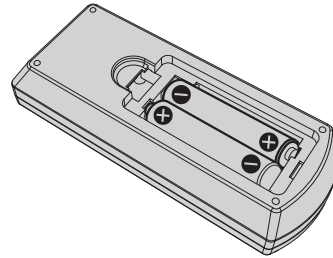

Fig. 2
- 2) Insert batteries and close the cover (insert the "⊕" side first). (Fig. 2)